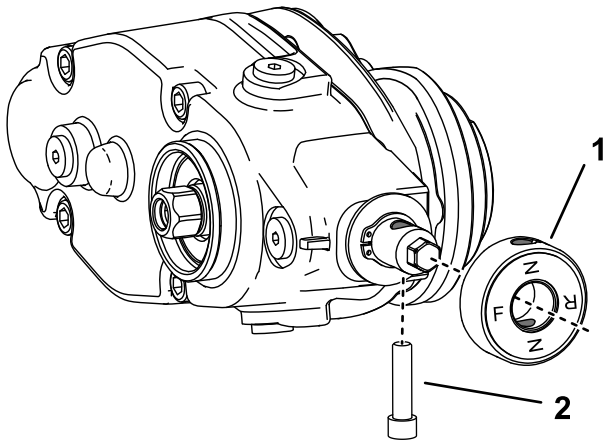

Figure 16
3. If you are installing the groomer at the left side of the machine, perform the following (Figure 16):
- B. Remove the clutch-knob assembly and flip it over (Figure 16).